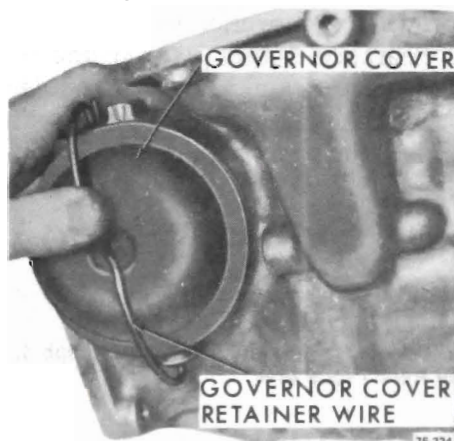

Figure 75-303
2. Install governor assembly, cover and seal and retainer wire. See Figure 75-303.